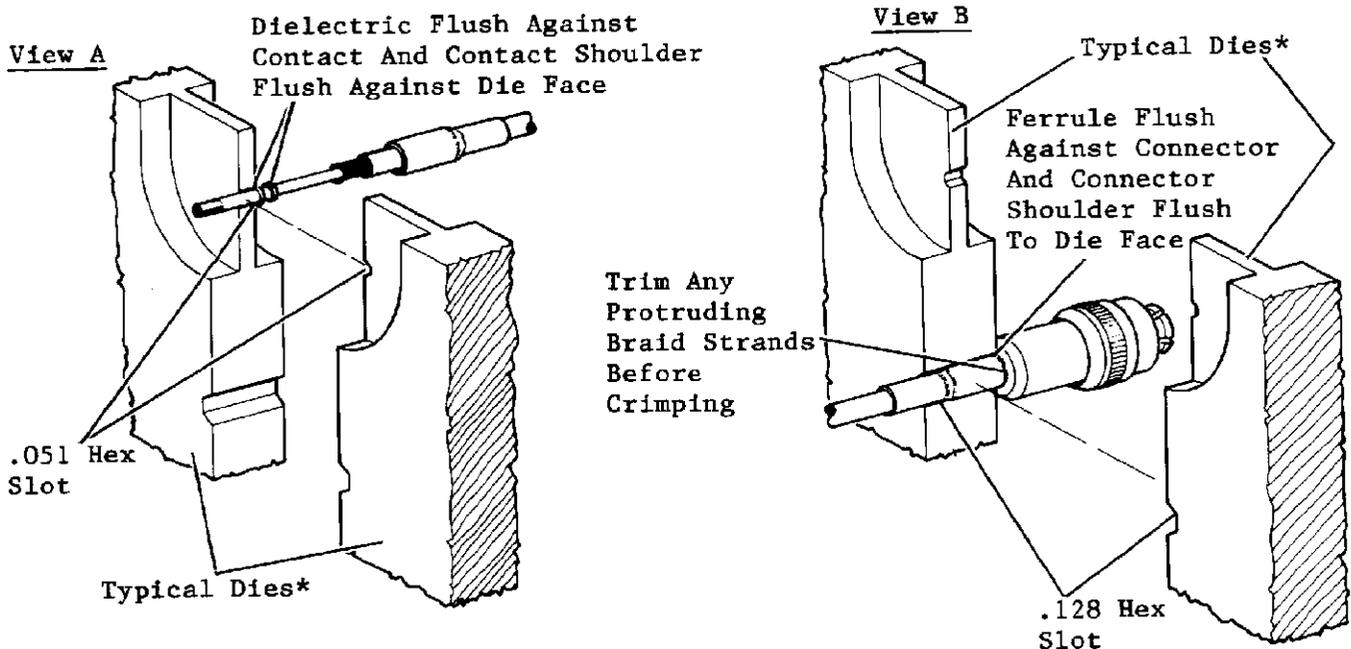

Fig. 5. Crimping Die Location
3. Slide the center contact onto the cable center conductor. Make sure that the contact is FLUSH against the dielectric before you crimp the center contact. When crimping, locate the center contact in the .051 hex of the dies with the die face flush against the shoulder of the contact (See Figure 5, View A).
6. Slide the outer ferrule over the braid. Crimp the ferrule in the .128 hex of the dies with the die face flush against the connector shoulder (See Figure 5, View B).
3. You may use another manufacturer's equivalent die set and tool frame. However, the crimp measurements across hex flats must conform to paragraph 3.6. of this specification; and the crimp lengths should appear as shown in Figures 5 and 6 of this specification.